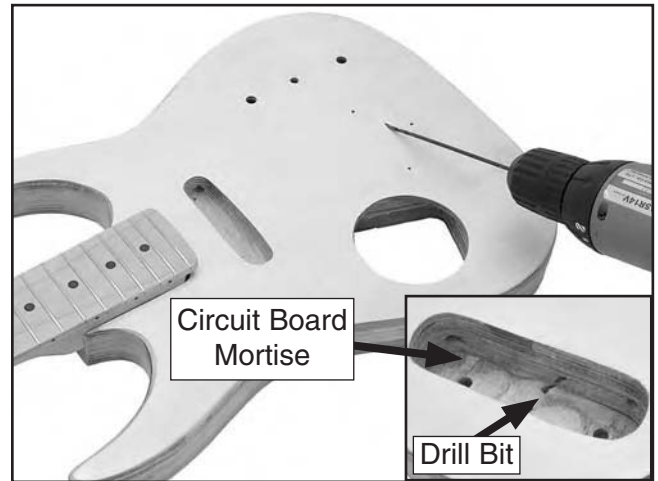

Figure 7. Drilling bridge ground wire shaft into circuit board mortise.
- Using a $\frac{7}{64}$ " aircraft extension bit, drill a shaft at a shallow angle toward the circuit board mortise as shown in **Figure 7**.
4. Insert the grounding wire through the hole in the side of the circuit board mortise (see **Figure 7**).